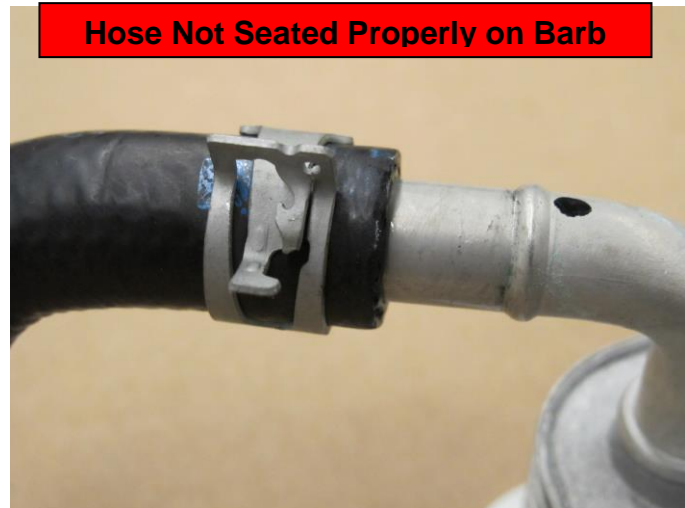

Figure 15
- Hose not seated properly on barb (Check hose insertion length) (Figure 15).